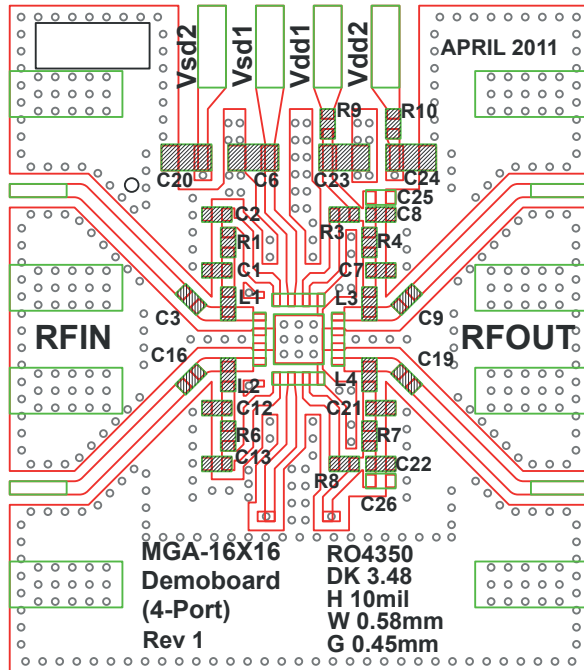
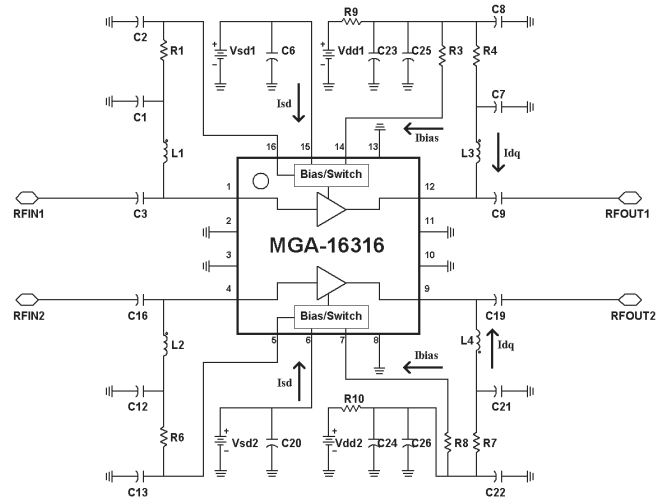

Figure 5. Demo Board Layout Diagram
Figure 6. Demo Board Schematic Diagram
4. Refer to Figure 6 for more details.
7. Bias to each LNA is adjustable using R3 and R8 (see Figure 6). Increasing R3 and R8 will reduce bias current (Idd) and vice-versa.
RF performance at  $T_A = 25^\circ\text{C}$ ,  $V_{dd} = 4.8\text{ V}$ ,  $I_{dd} = 53\text{ mA}$ , LNA mode, measured on demo board in Figure 5. Signal is CW unless stated otherwise. Application Test Circuit is shown in Figure 6 and Table 1. IIP3 test condition: FRF1-FRF2 = 1 MHz with input power of -20 dBm per tone.
2. Rbias is R3 and R8 from Figure 6.